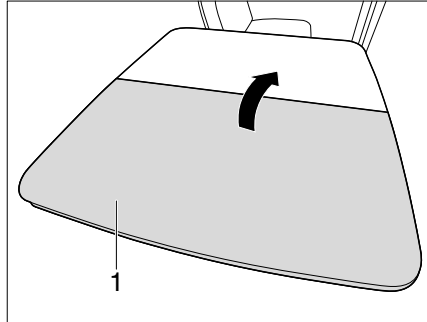

Fig. 121 Fold in the folding table
- Fold in the table half (Fig. 121,1).